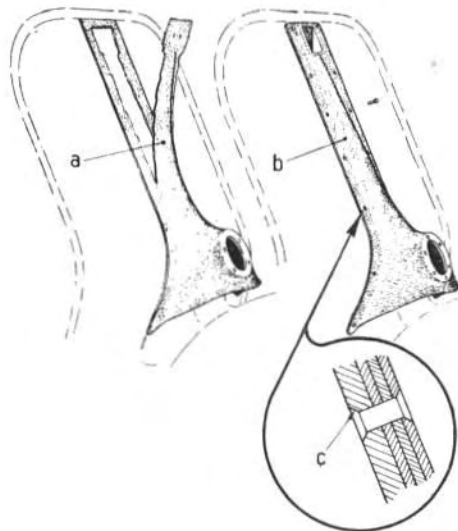

Fig. 118 - Replacement of steering cover.
- a) Remove « PIAGGIO » medallion, and cut off with a chisel the relief part of the cover as shown in Fig. 118, letter « a », thus leaving on the main shield just the welded edge.